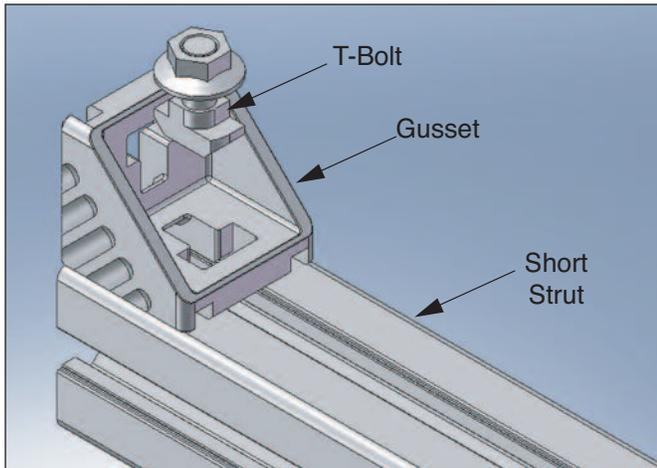

Fig. 2: Gusset Assembly
2. Place a Gusset on each end of a Short Strut as shown in Figure 2. The edge of each Gusset should be flush with the end of the strut. The alignment tab will protrude past the end of the strut.
3. Thread a nut onto the end of a T-Bolt as shown in Figure 2. Install a T-Bolt and nut through the opening in each Gusset and into the channel of the strut. Tightening the nut will cause the bolt to turn clockwise 90°. Tighten the nut and confirm that the T-Bolt rotated 90° and is fully engaging the channel of the strut.
For ease of installation, it is best to lower the T-Bolt and nut down in to the strut as shown in Figure 2. Note that the end of each T-Bolt has a mark to indicate the orientation of the bolt head. This mark can be used to confirm that the T-Bolt has rotated the entire 90°.